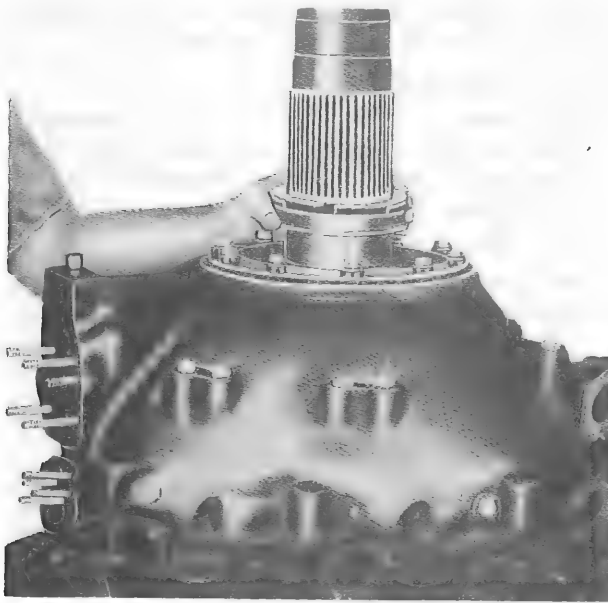

Figure 3-72. Installing Thrust Bearing Nut
b. Assemble thrust bearing nut and nut sleeve. Coat the threads of nut with antiseize compound, Military Standard MS35496, and swab nut sleeve with engine oil. Install nut and sleeve assembly on propeller shaft and run it down fingertight. (See figure 3-72.)